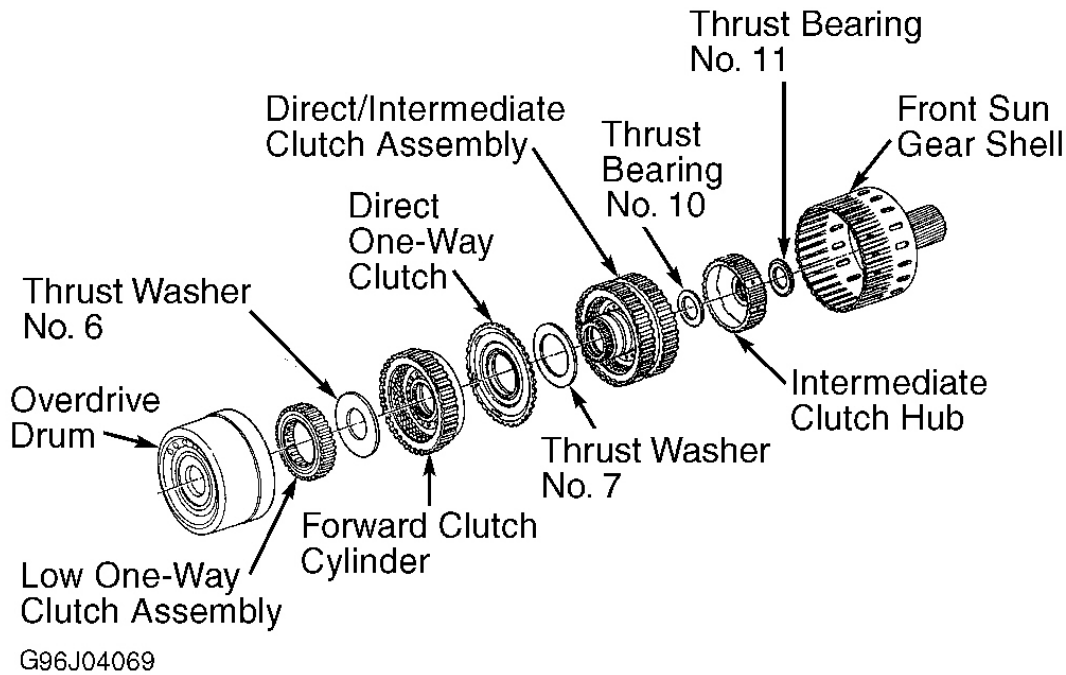

Fig. 26: Exploded View Of Shell Assembly
1. Set assembly on overdrive drum and remove sun gear and shell assembly. Remove No. 11 front sun gear thrust bearing, intermediate clutch hub and No. 10 thrust bearing. See **Fig. 26**.
3. Install forward clutch assembly, being careful not to damage "O" rings. Install No. 6 thrust washer on forward clutch assembly locking thrust washer tabs into oval holes on spring and support assembly. Ensure low one-way clutch is positioned in overdrive drum. Low one-way clutch should turn counterclockwise. Position overdrive drum over forward clutch. See **Fig. 26** .